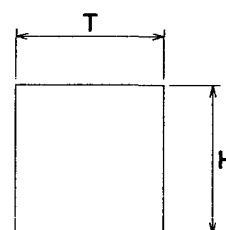

Fig. 13
(1) Use a light rail or square rail for the travel rail. Refer to Fig. 13 and Table 7.